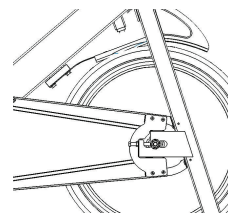

Figure 3. Pro
1. Using a 3mm Allen Wrench, remove the three screws supporting the plastic chain guard shroud. (Figures 3 & 4)